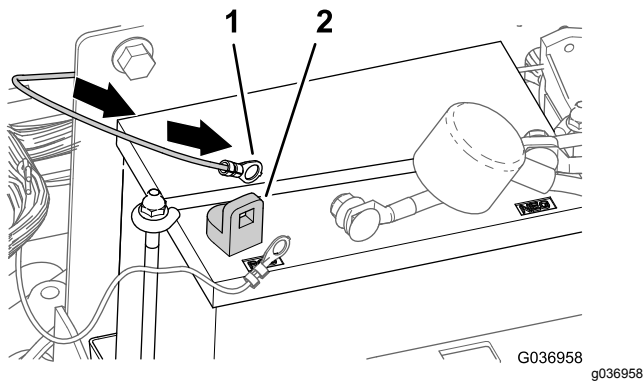

Figure 10
- 2. Route the harness leg with the ring terminal to the positive post of the battery (Figure 10).